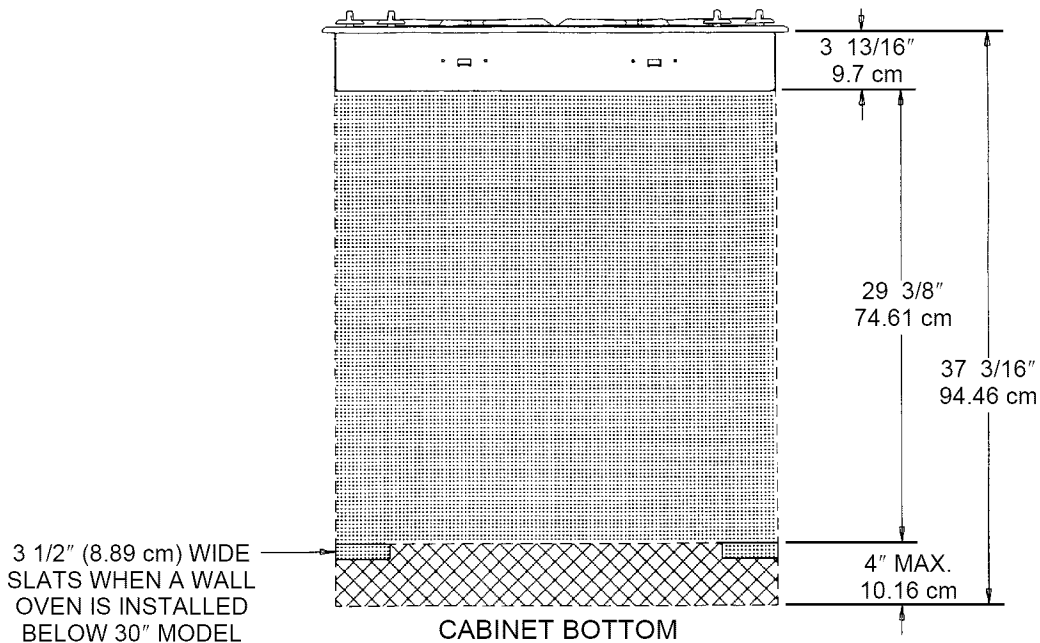

FIGURE 6
NOTE 1: This appliance and its gas and electrical supply sources must be installed before the wall oven is installed. See illustration (Electrical Wiring Information - page 7; figure 6) for recommended electrical supply source locations.
This appliance is equipped with a grounded type power cord. A grounded outlet must be provided. It is recommended, for convenience, the outlet be located (with reference to figure 6) as in A or B, below:
- A. If no other appliance is to be installed below this appliance: within either the shaded area or the cross hatched area shown in figure 6.
1. within the cross hatched area of figure 6, or,
If a wall oven is to be installed below this appliance and the counter units outlet is to be mounted within the cross hatched area of figure 6: